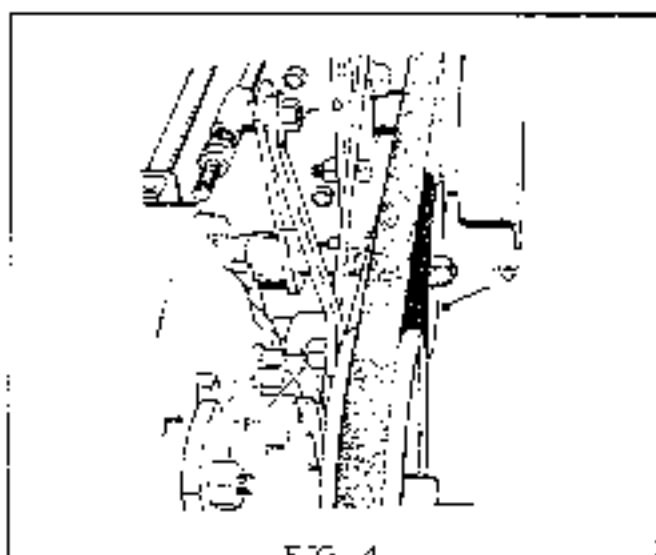

FIG. 4
1. With clutch and brake pedal in normal position (i. e., clutch engaged and brake released), adjust hex nuts (A) to give  $3/4$ " clearance between rod guide assembly (B) and nuts. (See Fig. 4).
3. Adjust nut (D) to permit clutch link (E) to pivot freely without excessive play. (See Fig. 4).
4. Adjust nut (F) to permit clutch link (E) to pivot freely without excessive play and check to see that nut has at least 1-1/2" of travel before touching transmission case. (See Fig. 4).
6. To compensate for belt stretch or other variances it may be necessary to move idler pulley (G) Fig. 4 into the alternate hole provided in its lever arm.